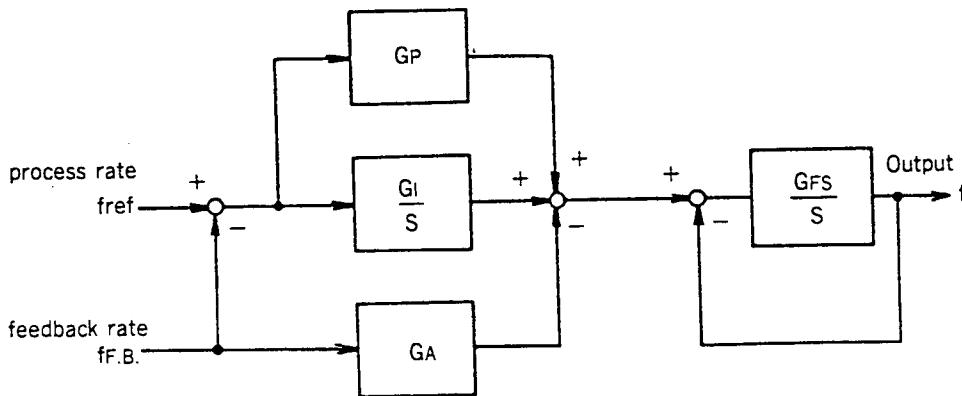

Figure 3.31 Block diagram
5) Set to the following data, refer to a block diagram Figure 3.31